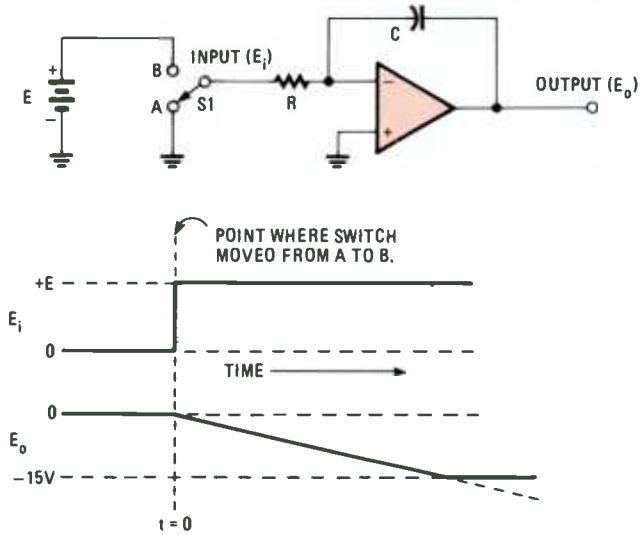

Fig. 12—Integrating a DC step-voltage will generate a linear ramp within the power supply confines.
27. (cosine, -sine) Integrators are also used with DC and squarewave inputs. With a fixed DC input, the integrator generates a linear voltage ramp, as shown in Fig. 12. Assuming the feedback capacitor is initially discharged, when switch S1 is moved from A to B a positive voltage from power supply E (in this instance a battery) is applied to the input and
28. (-DC) As long as the DC input is applied, the capacitor will charge and the output will rise. If the circuit in Fig. 12 were allowed to continue integrating the input for 10 seconds, the output would rise to: